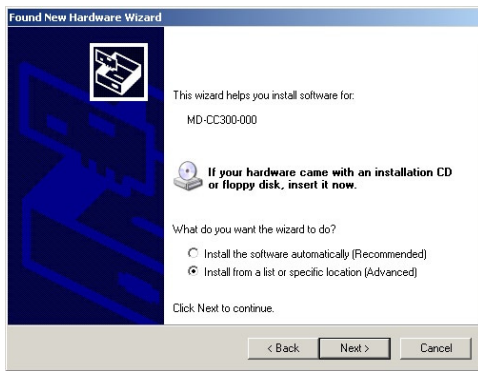

Figure 2: Hardware Update Wizard Screen 2
- 5) Select "Install from a list or specific location (Advanced)" on the radio buttons in answer to the query "What do you want the wizard to do?" Click "Next" (Figure 2).